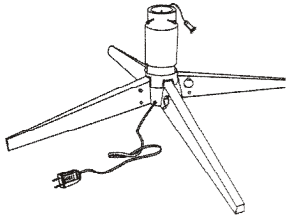

Fig.3
3. Screw the screw bolts into the hole. (See Fig.3)
3. Insert lower section(C) into the tree stand base (D) (see Fig.1); Insert the middle section (B) into (C) (see Fig. 2). Insert the top section (A) into (B) (see Fig. 3).